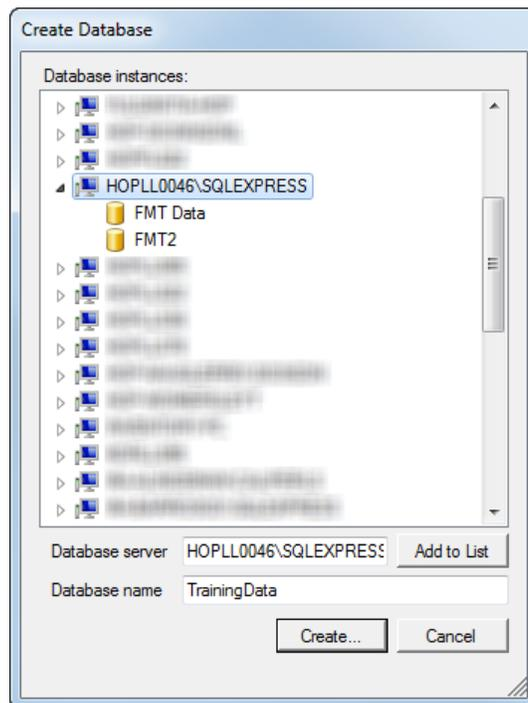

Figure 10-3.Create Database Window
3. Click the **New Database** button. The Create Database window opens as shown in Figure 10-3. The Create Database window displays the computers connected to the Local Area Network (LAN). The local computer name displays by default in the Database Server text box.